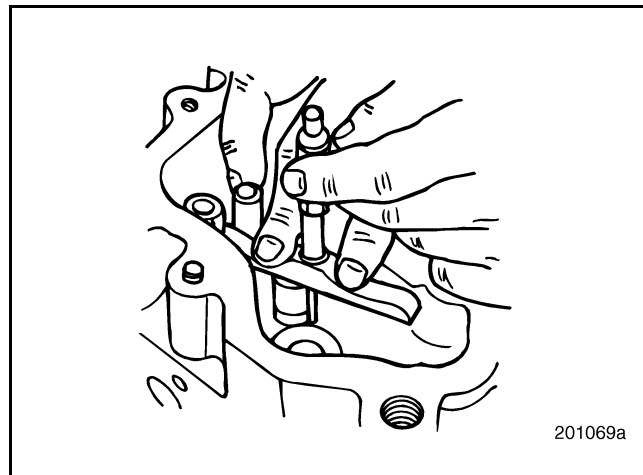

Figure 188 — Checking Valve Guide Extension
2. Use a depth gauge to check valve guide extension. Refer to Figure 188.
4. Using the depth gauge, check the extension of the guide from the valve spring seat to the top end of the guide. Refer back to Figure 188.